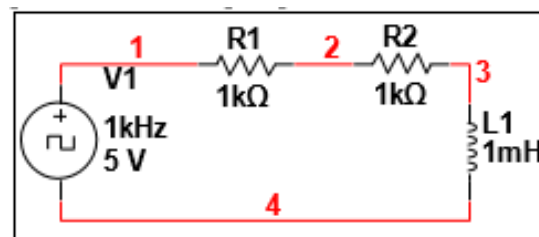

Figure 12.1: RL Circuit
- An RL circuit is shown in Fig. 12-1. Here, provides a square signal with a DC offset voltage such that the bottom part of waveform is aligned with 0 Volts level.